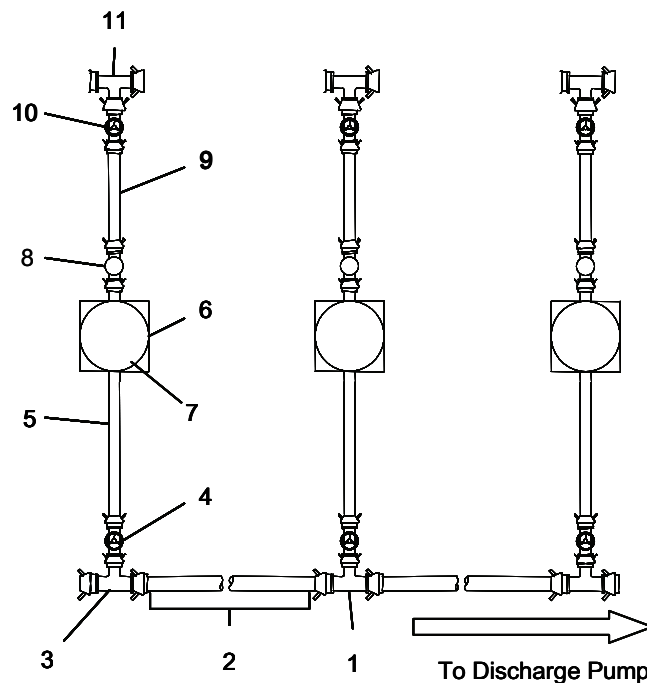

Figure 14. Installation of Filter-Separators.
40. Connect the 6 in. x 10 ft. discharge hose (Figure 14, Item 2) to the 6M x 6F x 4M tee assembly (Figure 14, Item 1).
42. Connect the 6 in. x 10 ft. discharge hose (Figure 14, Item 2) to the 6M x 6F x 4M tee assembly (Figure 14, Item 3).
44. Connect gate valve (Figure 14, Item 4) to the 6M x 6F x 4M tee valve assembly (Figure 14, Item 3).
46. Connect the 4 in. x 25 ft. discharge hose (Figure 14, Item 5) to the 4 in. gate valve (Figure 14, Item 4).
49. Place spill berm (Figure 14, Item 6) where filter-separator (Figure 14, Item 7) will be set up.
50. Ground filter-separator (Figure 14, Item 7) per Chapter 2 in FM 10-67-1.
51. Connect 4 in. x 25 ft. discharge hose (Figure 14, Item 5) to filter-separator (Figure 14, Item 7).
52. Remove the sampling probe adapter (Figure 14, Item 8) from side of the filter-separator (Figure 14, Item 7).
53. Connect sampling probe adapter (Figure 14, Item 8) to the filter-separator (Figure 14, Item 7).
55. Connect the 4 in. x 25 ft. discharge hose (Figure 14, Item 9) to the sampling probe adapter (Figure 14, Item 8).
58. Connect the gate valve (Figure 14, Item 10) to the 4 in. x 25 ft. discharge hose (Figure 14, Item 9).
59. Connect the gate valve (Figure 14, Item 10) to the 6M x 6F x 4F tee assembly (Figure 14, Item 11).